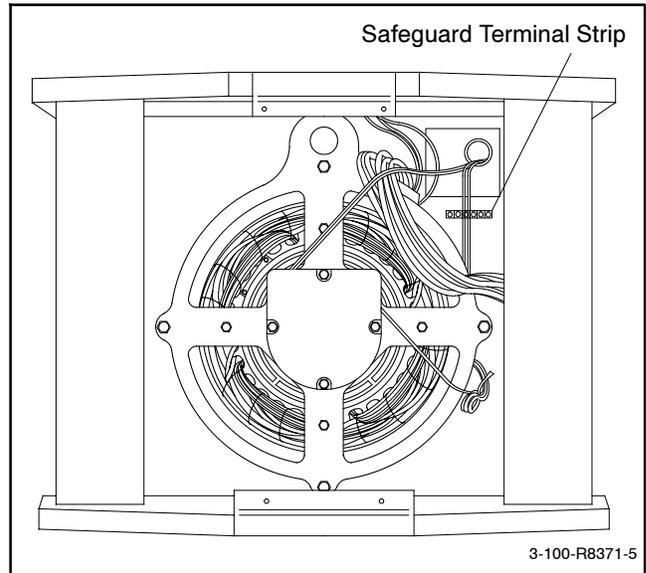

Figure 2 Location of Safeguard Terminal Strip (Typical 20–300 kW Shown)
3.1 Remove the junction box panels and screws to access the safeguard circuit breaker terminal strip. See Figure 2.